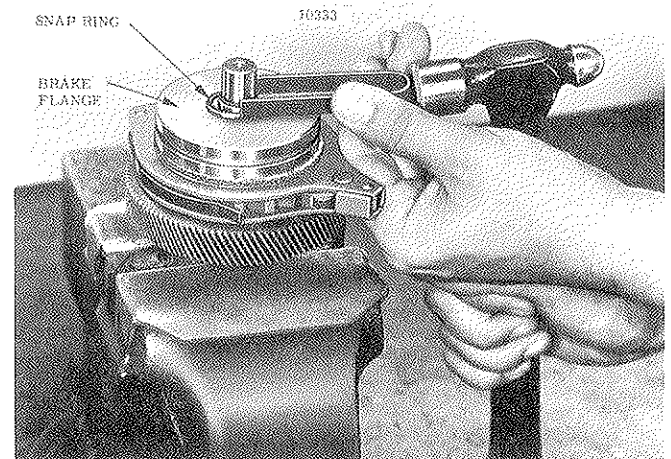

Figure 7-29. Removing Snap Ring from Load Brake Shaft
(1) Place load brake assembly, flange up, in a vise equipped with brass or copper jaw plates to protect pinion gear teeth. Remove snap ring from end of load brake shaft (fig. 7-29).